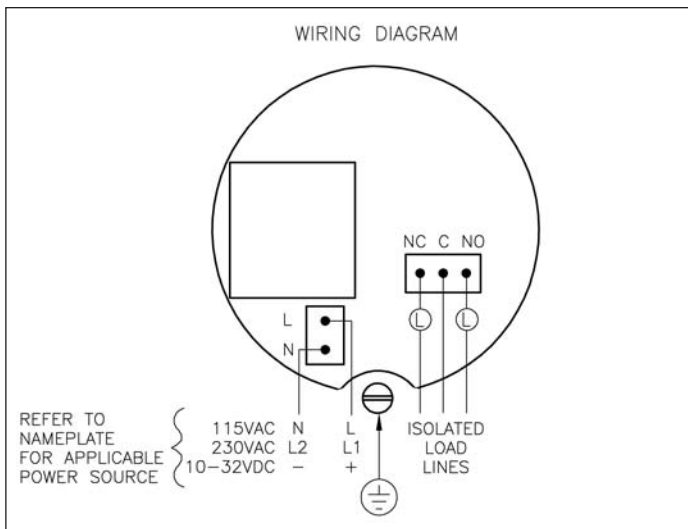

Figure 5
- 7) **Power Input** - Verify the intended voltage supply is compatible with the voltage configuration indicated on the external nameplate. Remove the plug-in terminal blocks and connect the power wiring as shown in Figure 5. The customer supplied power cable must have a minimum conductor size of 1mm² (18 awg). Additionally, the customer is responsible for installing a main power disconnect as mentioned above.
- 8) **Relay Output Contacts** - The **DustAlarm** is shipped in a FAIL-SAFE mode. That is, the relays are energized when power is applied and de-energized in the alarm mode. The two SPDT (form C) relay contact sets operate together but are electrically isolated from each other and all other parts of the unit. Each contact set is rated at 5A, 250VAC, 30VDC. Remove the plug-in terminal blocks and connect relay contact wiring as shown in Figure 5.
- 10) **DC Power Option** – The **DustAlarm** Broken Bag Detector may be supplied to operate with a DC input voltage between 10 and 32 volts (nominal 12V and 24V systems). If you have purchased a unit with this supply selection, the following conditions must be observed: The positive power input must be connected to the position labeled “L” on the unit’s power terminal block. Connect ground (-) to the “N” position on the power terminal block. Refer to Figure 5 for the proper wiring procedure. Input voltages above 32 VDC should never be applied at the power terminal block. To protect the unit, voltages much higher than 32 VDC will blow the fuse. Since the unit needs to draw sufficient power to operate, the lower the input voltage, the higher the current requirement. Operating the unit with an input less than 10 VDC could draw sufficient current to blow the fuse. To prevent blowing the fuse, the DC powered unit is equipped with an under-voltage lockout feature that will shut the unit down if the input voltage drops much below 10 VDC. Refer to the table below to determine the average power and current requirement of your **DustAlarm** unit, and the correct fuse. Consult the factory before attempting to replace the fuse. **WARNING:** Never apply AC power to any unit equipped with the DC power supply selection.